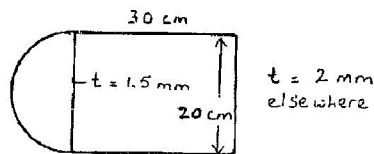

Fig. 5 Qn. 13 (b)
- (b) (i) The 2-cell structure shown in Fig. 5 is subject to a torque of 70 kNm. Plot the shear flow distribution, and find the cell twist. Use $G = 75 \text{ GPa}$. (10)